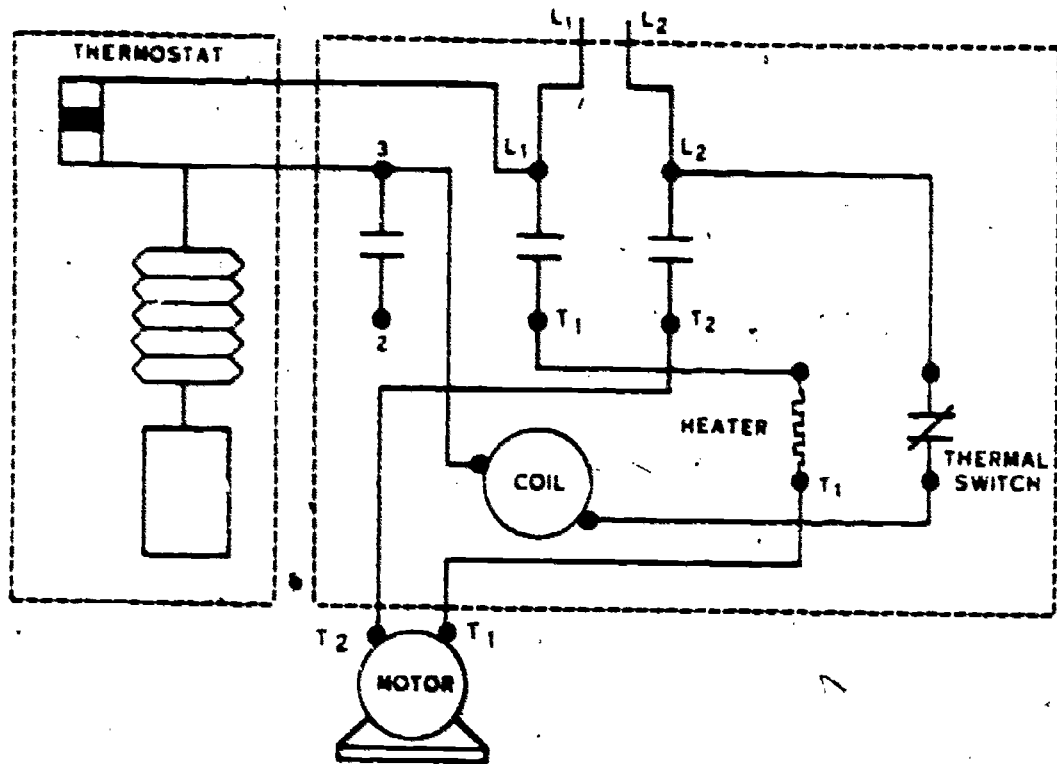

Figure 14. . Single-Phase Across-the-Line Motor Starter .
8. Using your red and blue pencil, in figures 14 and 15 trace the control circuit in blue and the load circuit in red.